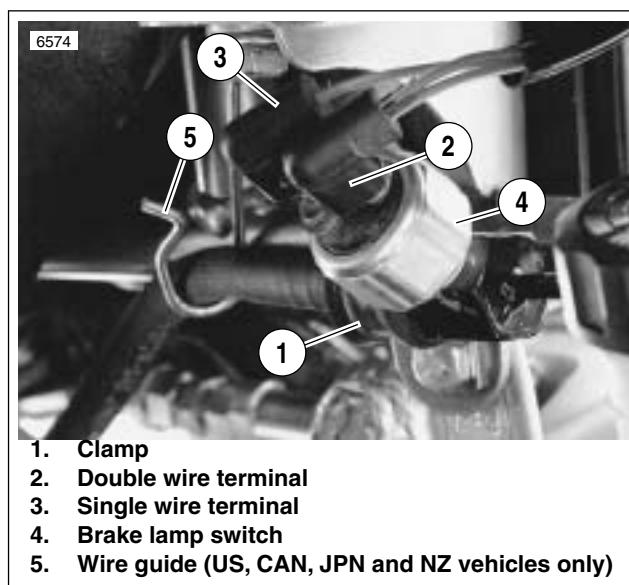

Figure 2. Rear Brake Line and Switch
7. See Figure 2. Remove wires from terminals (2,3) at top of brake lamp switch (4).
8. See Figures 2 and 6. Remove and retain clamp and hardware attaching brake line to ground strap frame tab.
9. See Figures 2 and 6. If applicable, release brake line from wireform attached to lower right oil tank frame tab.
1. Coat threads of rear brake lamp switch with LOCTITE PIPE SEALANT WITH TEFLON and install to **new** brake line. Tighten switch to 84-96 **in-lbs** (9.5-10.8 Nm). See Figure 2. Tighten as required to orient terminals as shown in Figure 2.
4. See Figures 2 and 6. If applicable, attach brake line to wireform on lower right oil tank tab.
5. See Figures 2 and 6. Install screw and clamp (1) to fasten rear brake line ground strap and star washer to frame tube on right side of motorcycle. Tighten to 10-12 ft-lbs (13.6-16.2 Nm). Note: Star washer goes between ground strap and frame tab.